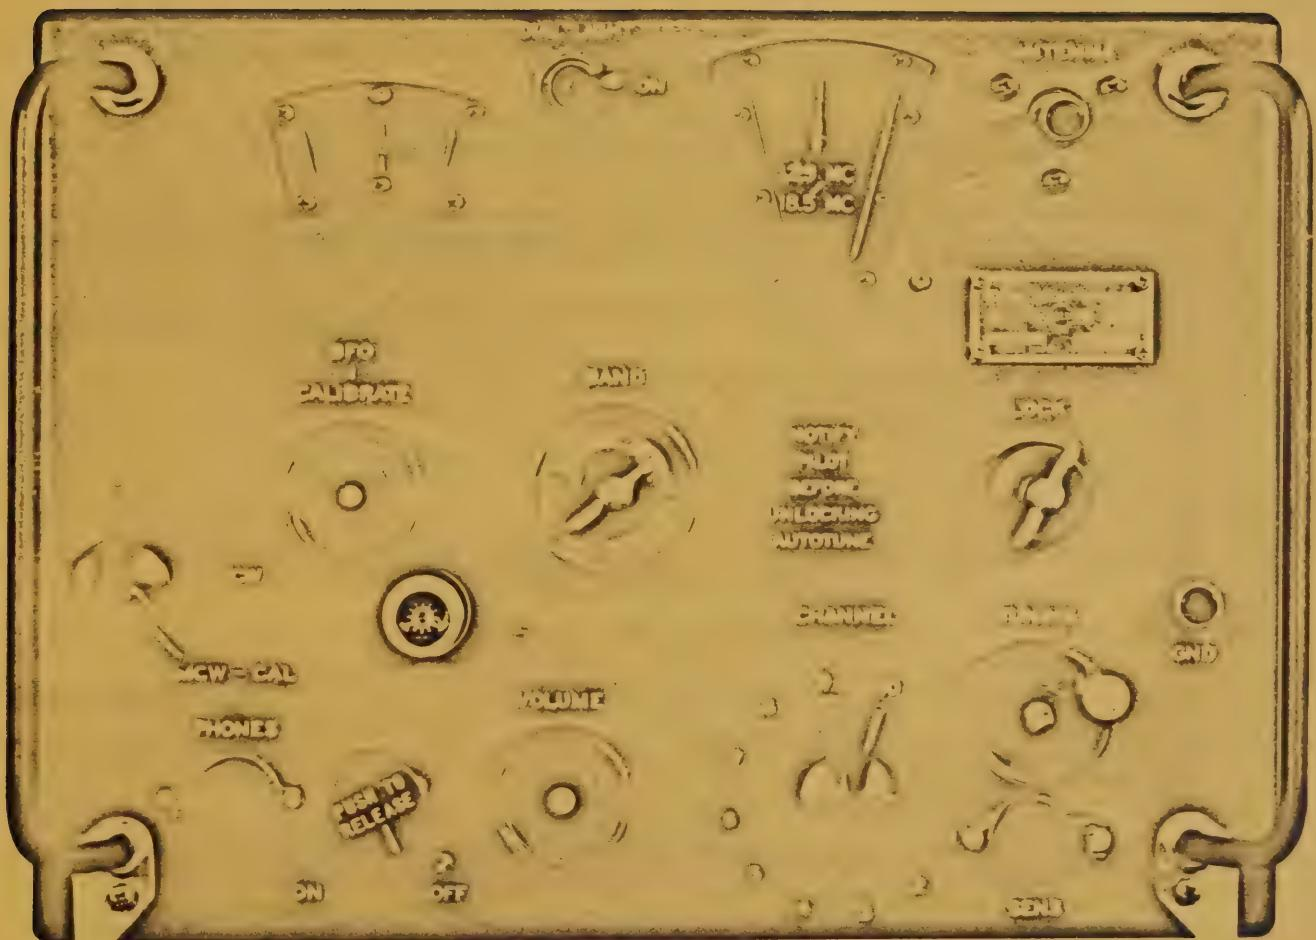

Figure 4-1 Panel Control Functions
a. PANEL CONTROL. - (See figure 4-1)
- (1) Insert the headphones cord plug into the PHONES jack.
- (2) Rotate the ON-OFF switch to the ON position.
- (3) Select the AUTOTUNE channel corresponding to the frequency upon which reception is desired.
- (4) Rotate the CW-MCW-CAL selector switch to the position corresponding to the type of reception desired.
- (5) Regulate the audio level to the input to the phones with the VOLUME control.
- (6) Press the ON-OFF control to turn the receiver off.